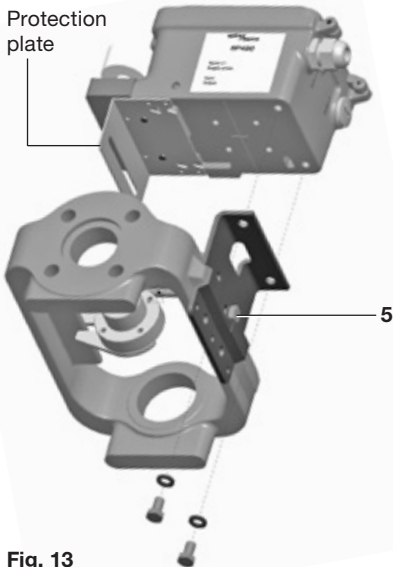

Fig. 13
When the SP400 positioner and mounting plate assembly is correctly positioned, tighten the hexagon headed screw (5) on the yoke mounted actuator (Figure 13) to 10 - 12 N m and tighten the 'U'bolt nuts (6) on the pillar mounted actuators (Figure 16) to 10 - 12 N m.